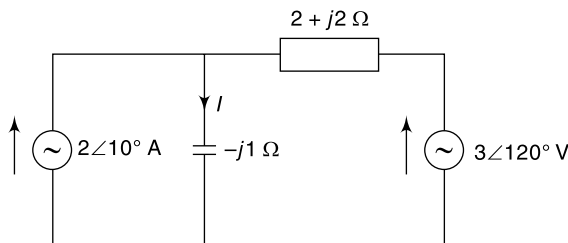

Fig. 6.37
5. Find current I in Fig. 6.37 using superposition theorem.